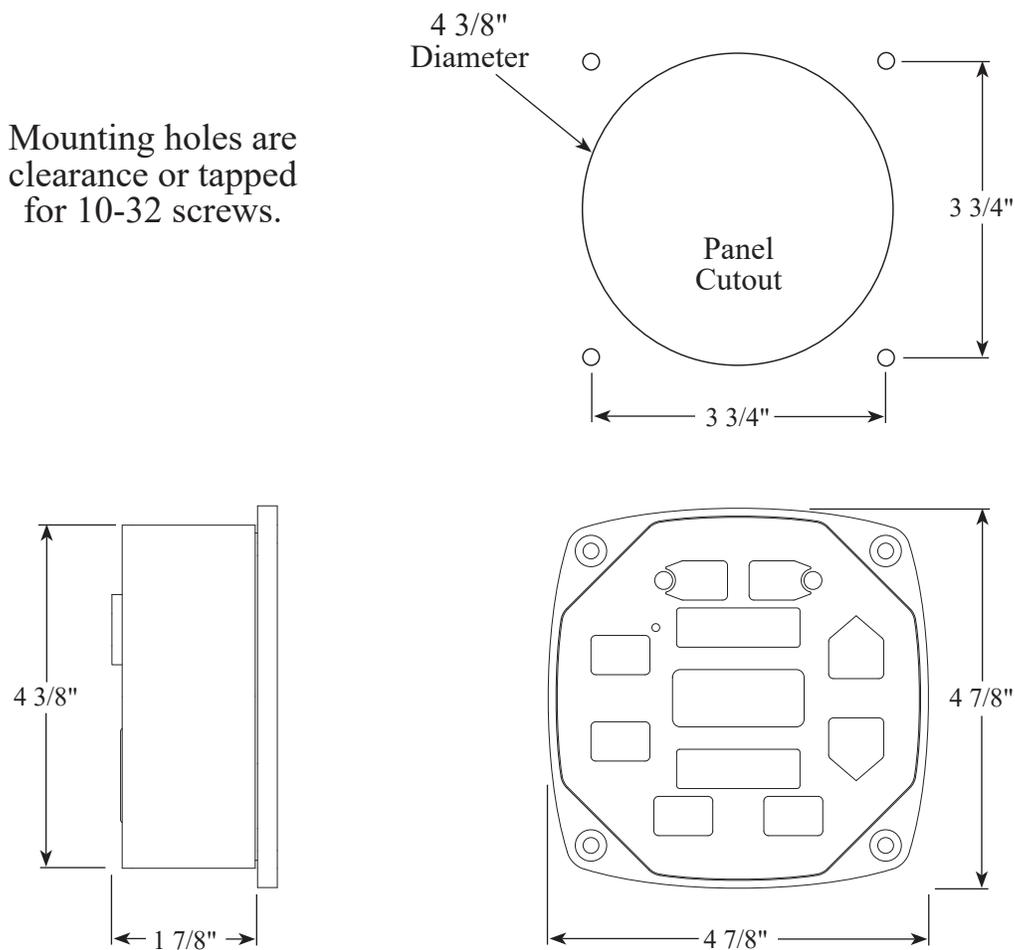

Figure 3. Control Module Dimensions
1. Measure and mark mounting location for control module panel cutout and mounting screw holes. Make sure there is clearance behind the panel before cutting holes. Refer to Figure 3 for layout and dimensions.